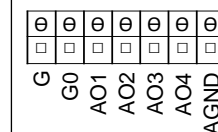

Figure 2 Wiring diagram
- Connect the wires to the terminals according to the wiring diagram in *Figure 2*